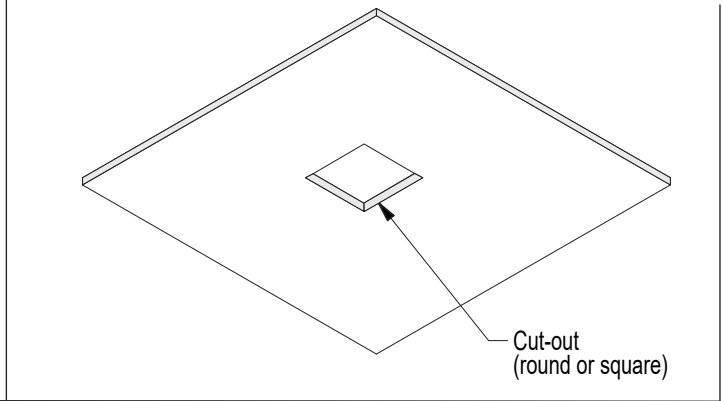

FIG 4.4 Cut opening in Ceiling Tile
STEP 4 Cut opening in ceiling tile for Trim. For cut-out size, refer to Installation Instructions referenced above. Install Ceiling Tile into T-Grid - **FIG 4.4**.